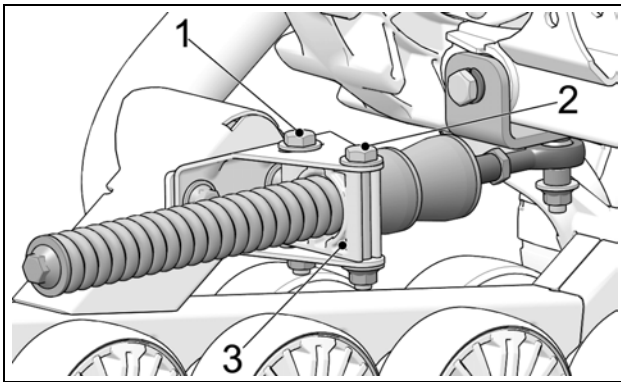

Figure 17
- Loosen anti-rotation bracket bolts (1) and (2) to allow the anti-rotation retainer (3) to rotate on its axis. See Figure 17.